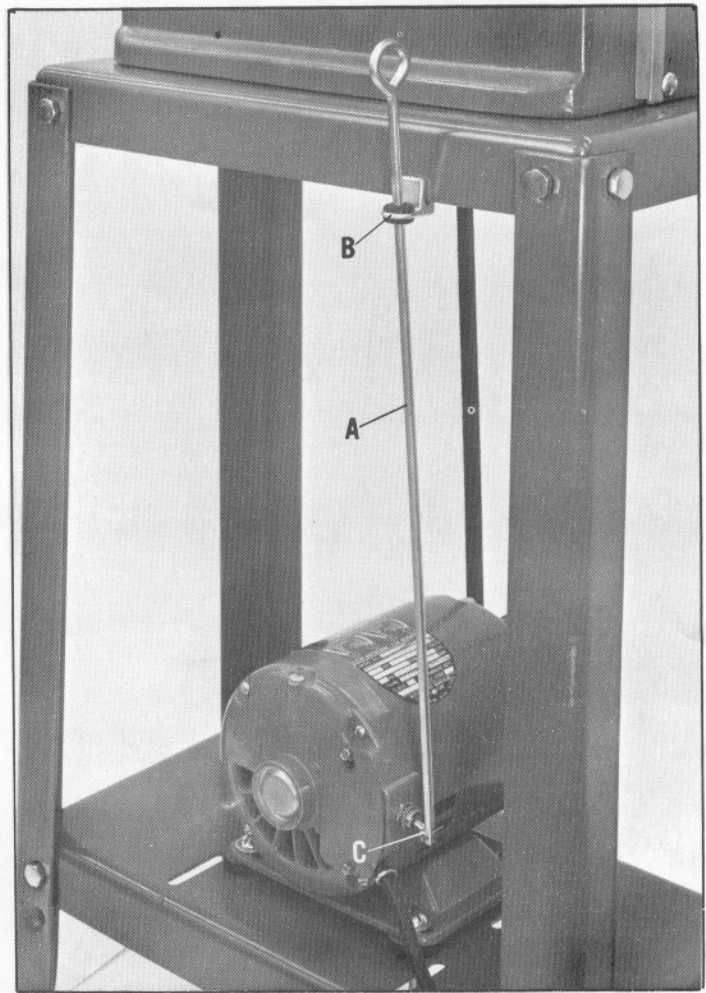

Fig. 4.
If you have purchased the #51-334 switch rod, insert the rod (A) through the hole in the bracket (B) and assemble the end of the switch rod to the toggle switch (C) using the cotter pin supplied. Then fasten the bracket (B) to the upper shelf as shown in Fig. 4.